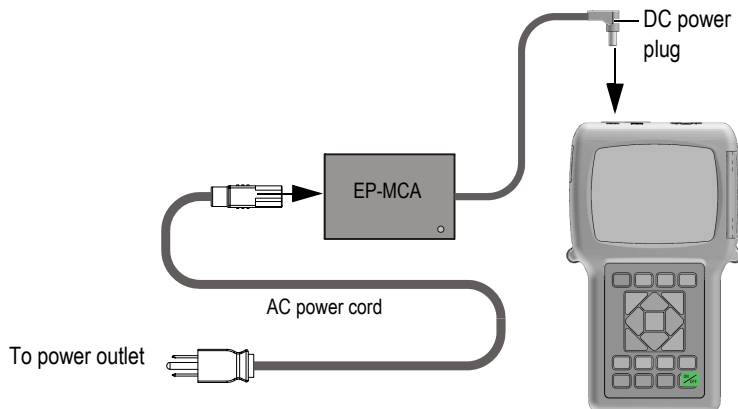

Figure 2-2 Connecting the charger/adaptor
1. Connect the AC power cord to the charger/adaptor (P/N: EP-MCA [U8767042]), and to an appropriate power outlet (see Figure 2-2 on page 38).